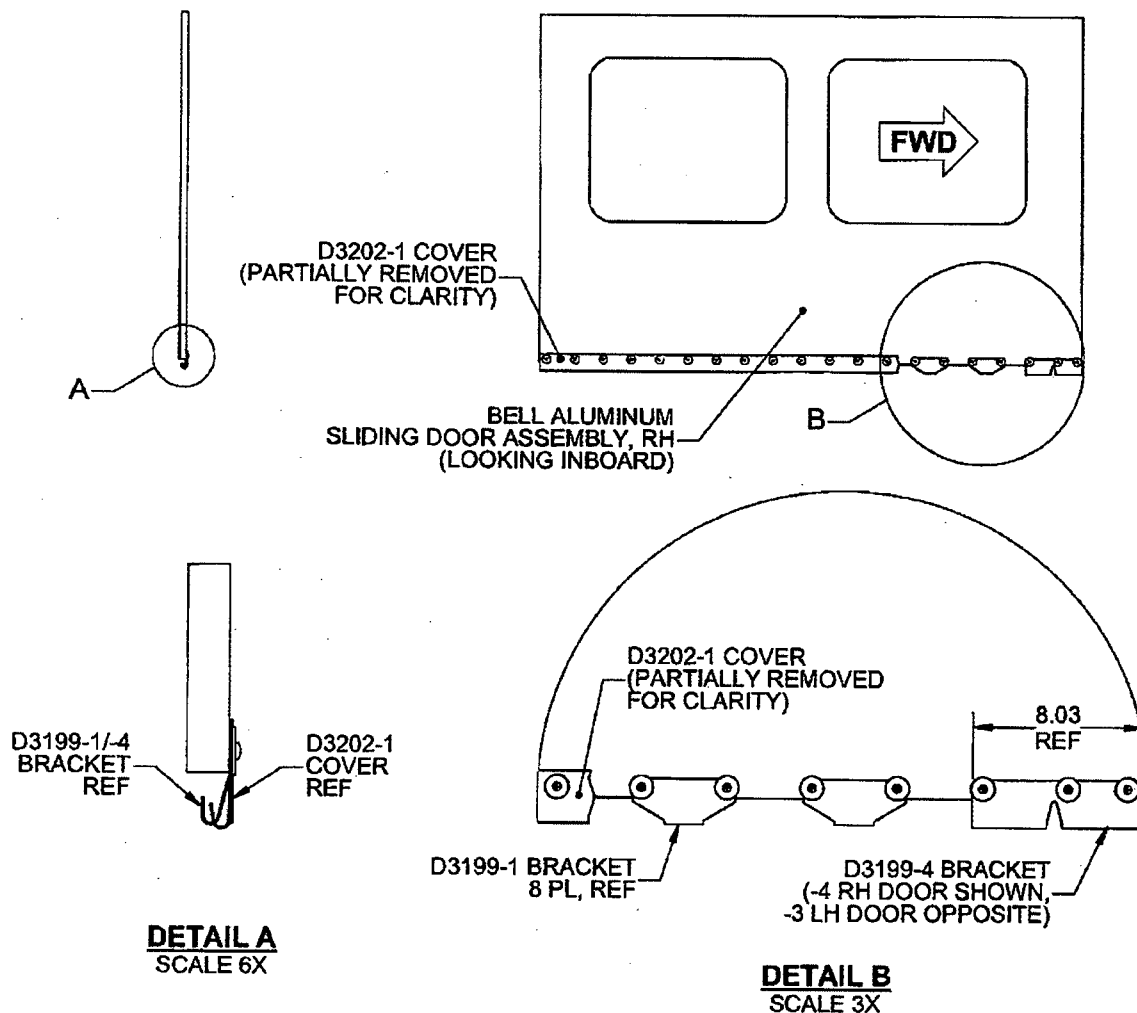

FIGURE 1: D3199-3/-4 BRACKET INSTALLATION ON ALUMINUM DOORS
- 3) Install the D3199-3/-4 or D3675-5/-6 bracket as applicable in lieu of the removed -1 bracket. Refer to Figure 1 Sheet 2 (aluminum doors) or Figure 2 Sheet 3 (composite doors).